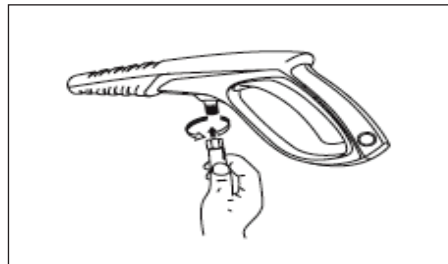

Figure 11 - Attach high pressure hose to gun (all models)
2. Attach high pressure hose to gun (see Figure 11).
7. Attach high pressure hose to gun (see Figure 11).
5. Attach high pressure hose to gun (see Figure 11).